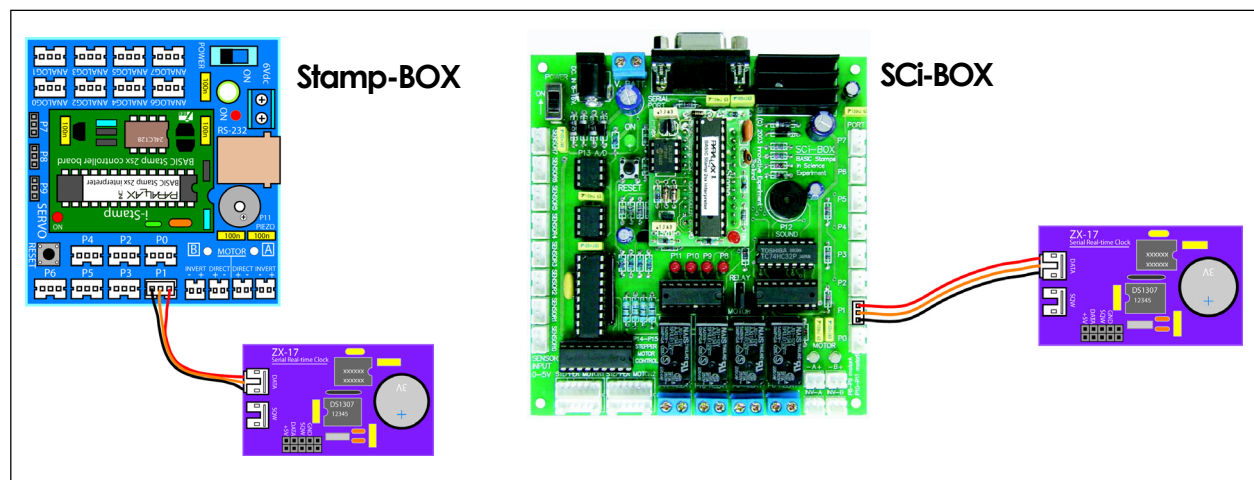

Figure 3 : interface diagram between some BASIC Stamp2SX board and ZX-17
2.1 Still connect ZX-17 to Stamp-BOX or SCi-BOX following figure 3